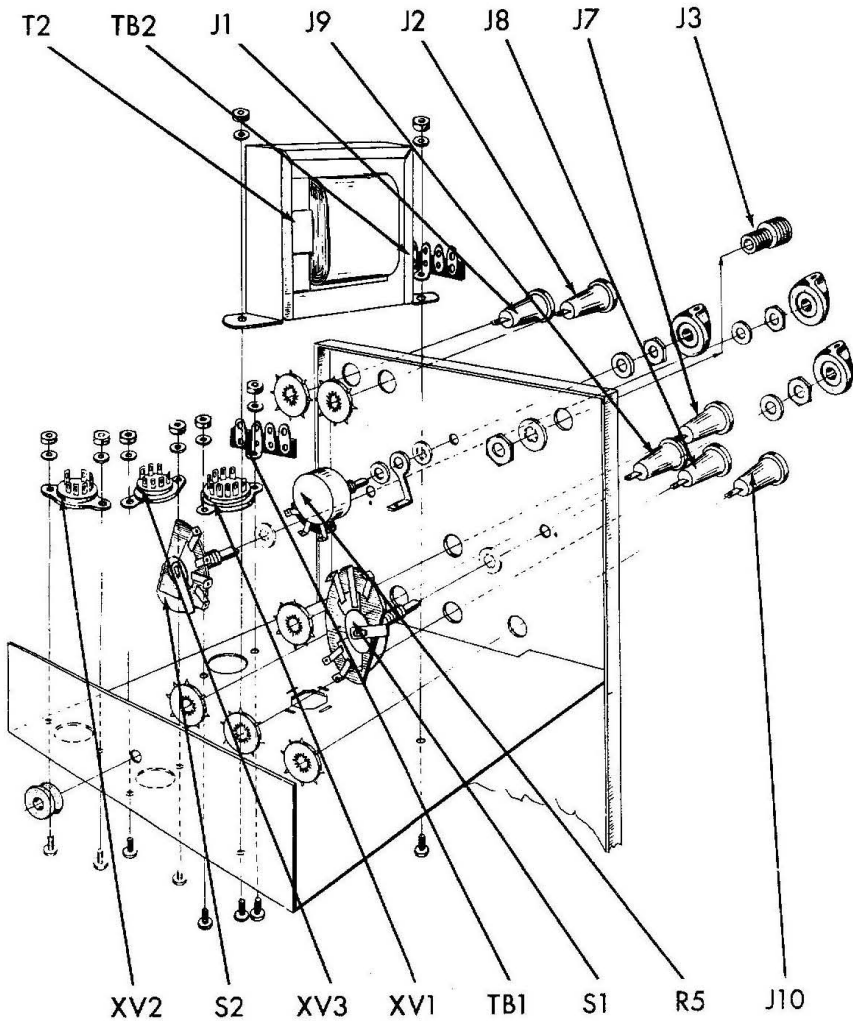
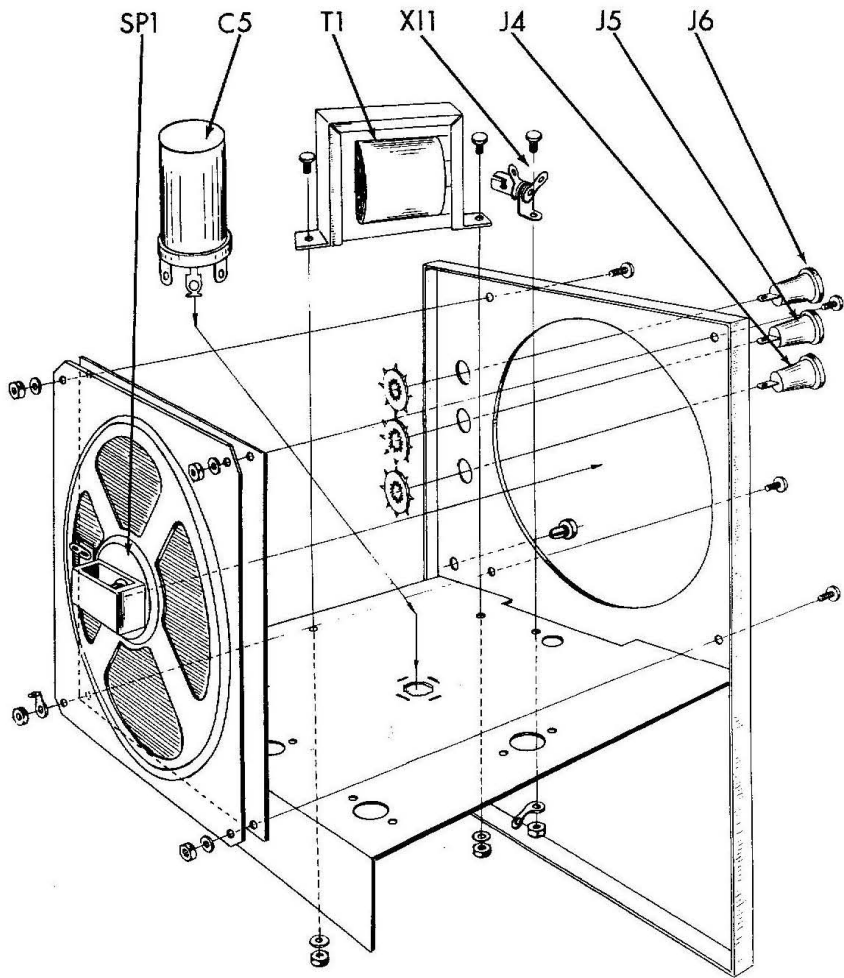
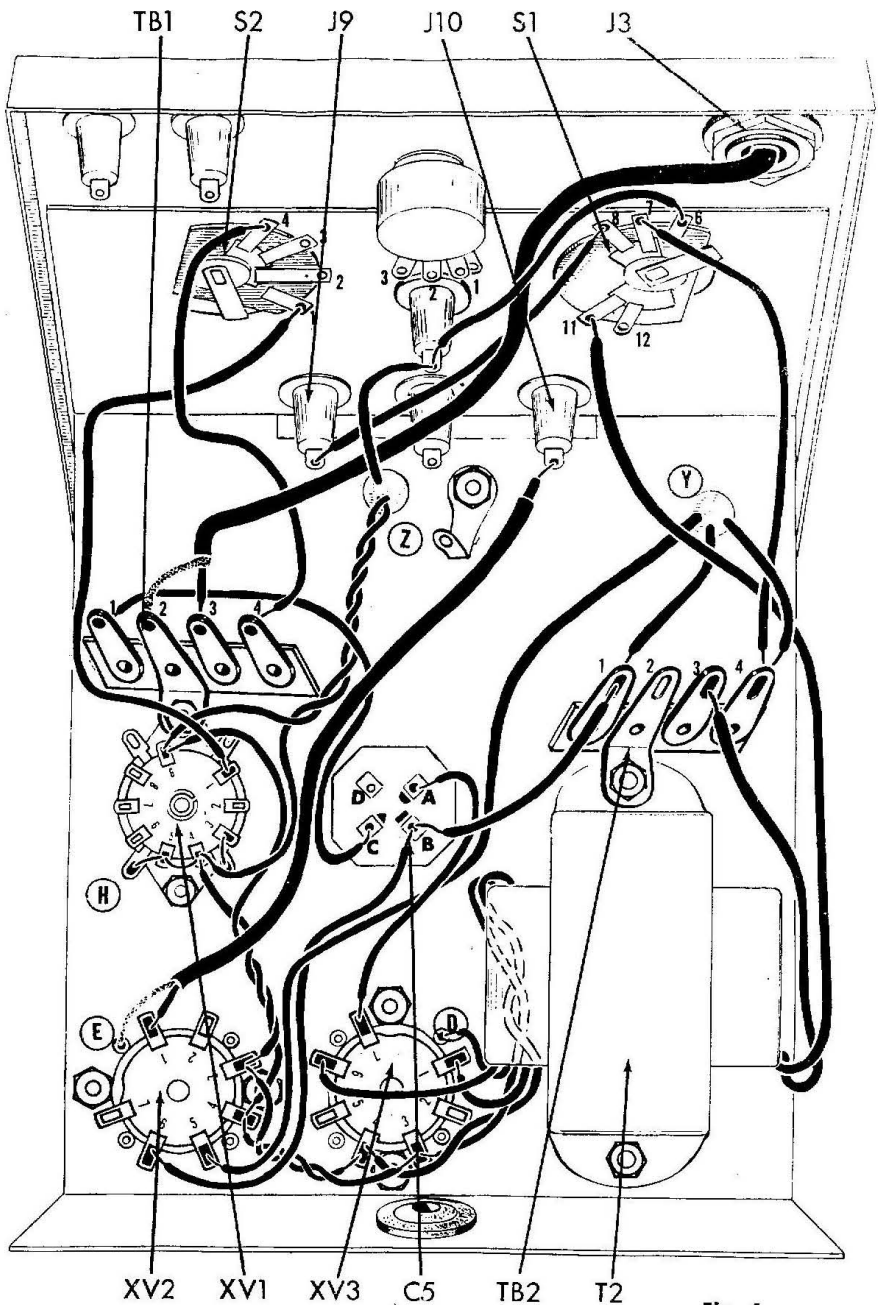

Fig. 1
Fig. 2
Fig. 4
1. ( ) Fig. 1. Mount the red pin jack J1, in the lower left hand corner of the panel at the AF IN. Use a star washer. With the smooth or convex rounded side of the star washer facing away from the panel, press the star washer firmly against the panel over the pin jack until the pin jack is held securely.
2. ( ) Fig. 1. In a similar manner, mount black pin jack J2 at the ground of the AF IN, black pin jack J9 at TEST AMP, black pin jack J8 at GND, black pin jack J10 at VTVM SCOPE and black pin jack J7 at TEST SPKR. Use one star washer on each to secure jacks as above.
3. ( ) Fig. 1. Mount the male amphenol connector J3, at hole marked RF IN. Use two lockwashers and a hex nut to secure to panel.
4. ( ) Fig. 1. Mount the 500K $\Omega$  gain potentiometer, R5, as shown. Use two 3/8 flat washer, one 3/8 lock washer, one pot grounding lug and one 3/8 hex nut. When tightening nut, let the grounding lug be opposite pin 1 on the pot to facilitate wiring.
5. ( ) Fig. 1. Mount 9 pin miniature tube socket XV1 as shown. Use two #4-40 x 1/4 screws, two #4 lockwashers and two #4-40 hex nuts. Mount a 3 post 2 right with ground terminal strip, TB1, under one of the lockwashers (Fig. 4).
6. ( ) Fig. 1. Mount 7 pin tube sockets XV2 and XV3 as shown. Use two #4-40 x 1/4 screws, two #4 lockwashers and two #4-40 hex nuts (Fig. 4).
7. ( ) Fig. 1. Push the rubber grommet into the 3/8 hole at the rear of the chassis.
8. ( ) Fig. 1. Mount power transformer T2, 30023, as shown. Use two #6-32 x 1/4 screws, two #6 lockwashers and two #6-32 hex nuts. Mount a 3 post 2 right with ground terminal strip, TB2, as shown under one of the lockwashers. The twin black leads should face the outside edge of the chassis.
9. ( ) Fig. 1. The chassis is held to the panel with the two switches. Mount the half wafer output selector switch, S1, and the quarter wafer Input selector switch S2, through the chassis and associated panel holes as shown. The key hole adjacent to the mounting hole on the chassis, determines the direction for mounting the switches, by pushing the key on each switch through this hole. Use a 3/8 lockwasher, a 3/8 flat washer, and a 3/8 hex nut on each switch as shown to secure the chassis, panel and switches.
1. ( ) Fig. 2. Mount the three red pin jacks, J4, J5 and J6 through the three holes marked P, B+ and P as shown. Similar to the above, use one star washer to secure each pin jack to the panel.
2. ( ) Fig. 2. Mount the speaker, SP1 as shown. Place the flocked screen between the speaker and the panel. Use four #6-32 x 1/4 screws, one #6 ground lug, three #6 lockwashers and four #6-32 hex nuts. Note direction of solder lug.
3. ( ) Fig. 2. Press the pilot light jewel firmly into the hole at the front of the panel.
5. ( ) Fig. 2. Mount the pilot light bracket X11, as shown. Use one #6-32 x 1/4 screw, one #6 ground lug and one #6-32 hex nut. Do not tighten as yet.
6. ( ) Fig. 2. Mount the output transformer T1, 32009, as shown. Use two #6-32 x 1/4 screws, two #6 lockwashers and two #6-32 hex nuts. All leads facing the outside edge of chassis.
7. ( ) Fig. 2. Tighten the nut on the pilot light bracket, X11. Turn the bracket so that it does not short against the output transformer, while at the same time permitting the insertion of a pilot light.
8. ( ) Fig. 2. Mount the electrolytic capacitor C2, as shown. Note the position of the three code markers (triangle, semi-circle and square) next to the prongs on the capacitor. Insert the mounting tabs into the slots in the chassis and twist the tabs somewhat less than a quarter turn. DO NOT twist the tabs excessively or they will shear off. See Fig. 4. Solder the tab without a hole to the chassis at its slot.
1. ( ) Fig. 4. Connect the yellow wire from the twisted pair of wires going through hole "Z" to XV1-4 (C) and the brown wire from the same twisted pair to XV1-9 (C).
2. ( ) Fig. 4. Connect one end of a 4 1/2" piece of brown wire to XV1-9 (S) and one end of a 3 1/2" piece of yellow wire to XV1-4 (C). Twist the two leads together. Connect the other end of the brown lead to XV2-3 (C) and the yellow lead to XV2-4 (C).
3. ( ) Fig. 4. Connect one end of a 2 1/2" piece of brown wire to XV2-3 (S) and one end of a 2 1/2" piece of yellow wire to XV2-4 (S). Connect the other end of the brown wire to XV3-4 (C) and the other end of the yellow wire to XV3-3 (C).
4. ( ) Fig. 4. On power transformer, T2, cut the green lead to 3 1/2" and the green-yellow lead to 4 1/2". Twist the leads and run along the chassis as shown. Connect the green lead to XV3-3 (S) and the green-yellow lead to XV3-4 (S). Cut the brown lead flush with the transformer winding so that no free end hangs loose.
5. ( ) Fig. 4. Cut the red-yellow lead on power transformer T2, to 2". Connect to ground lug "D" (S) at XV3.
6. ( ) Fig. 4. Cut the lower red lead on power transformer to 1 1/2" and connect to XV3-1 (S).
7. ( ) Fig. 4. Cut the upper red lead on power transformer to 2 1/2" and connect to XV3-6 (S). Note: It is immaterial if the connections to XV3-1 and XV3-6 are reversed.
8. ( ) Fig. 4. Connect a 1/2" piece of bare wire from XV1-4 (S) to XV1-5 (C).
9. ( ) Fig. 4. Connect a 3/4" piece of bare wire from XV1-5 (S) to ground lug "H" (S) at XV1.
10. ( ) Fig. 4. Connect the red lead from hole "Y" to TB2-1 (C).
11. ( ) Fig. 4. Connect a 4" piece of red wire from C5B (C) to XV2-6 (S).
12. ( ) Fig. 4. Connect the blue lead from hole "Y" to XV2-5 (S).
13. ( ) Fig. 4. Connect a 3" piece of red wire from C5A (C) to XV3-7 (S).
14. ( ) Fig. 4. Connect a 2" piece of red wire from TB2-1 (C) to C5B (C).